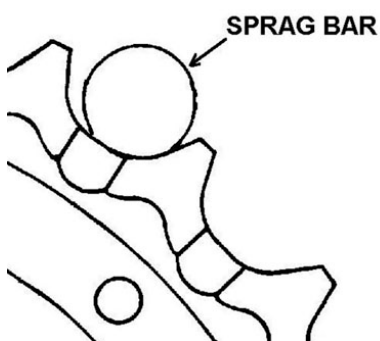

Figure 1-60. Sprag bar installation.
3. Have an assistant slowly drive the crawler tractor in reverse, as you carefully install a sprag bar between two sprocket teeth (fig. 1-60). This forces the front idler to retract by not allowing the track bushings and sprocket teeth to engage.